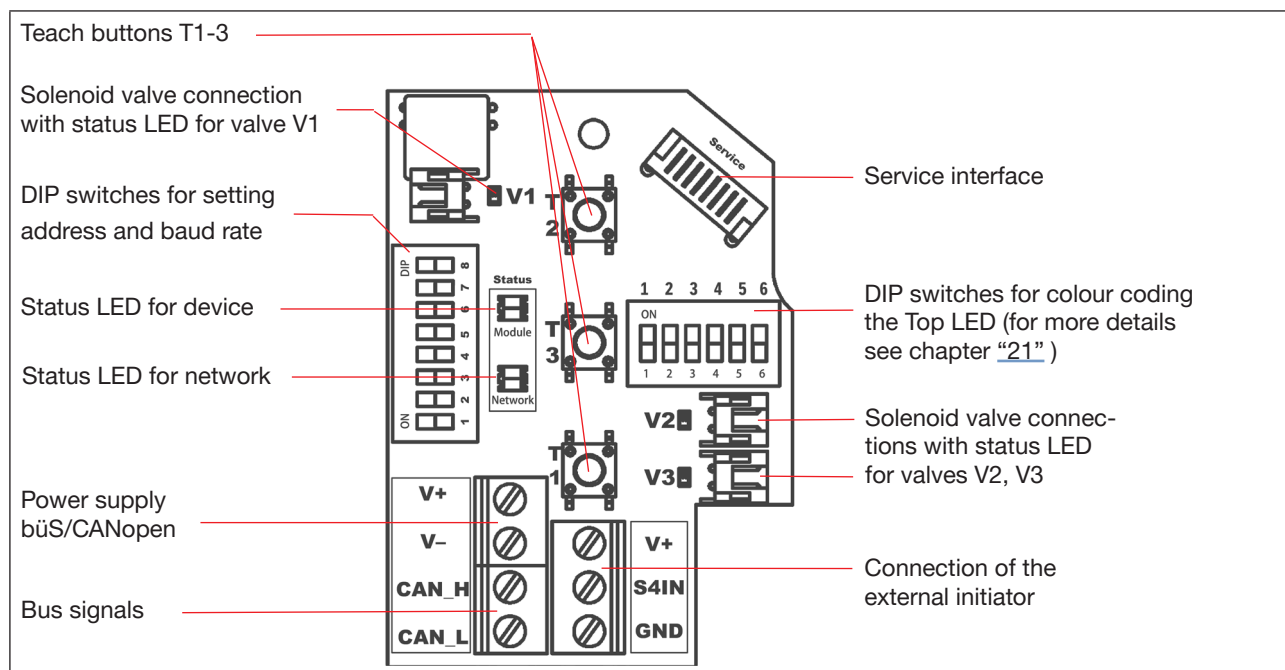

Fig. 42: Electronic module büS/CANopen
- Open the housing (compare chapter “8 Opening and Closing the Housing” on page 36) so that this electronic module is visible as shown below (“Fig. 42”).